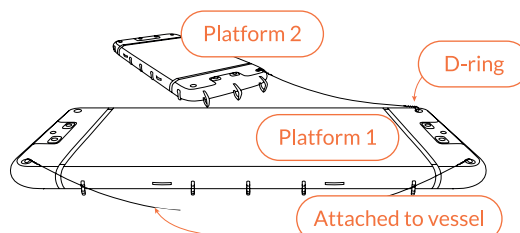

Fig 66 – Platforms secured to each other via a D-rings
5. Using a Dock line, secure the second Platform to the first Platform using the D-rings on each (Fig 66). This should be done using a bowline or round turn and two half hitches.